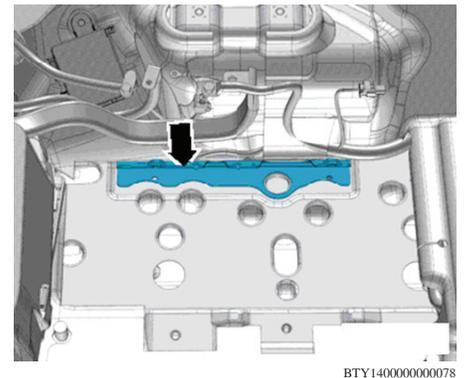

Fig. 3 Battery clamping strip
1. Install battery in battery tray so that battery clamping strip fits into strip in battery tray (arrow), **Fig. 3**. It should no longer be possible to move battery.